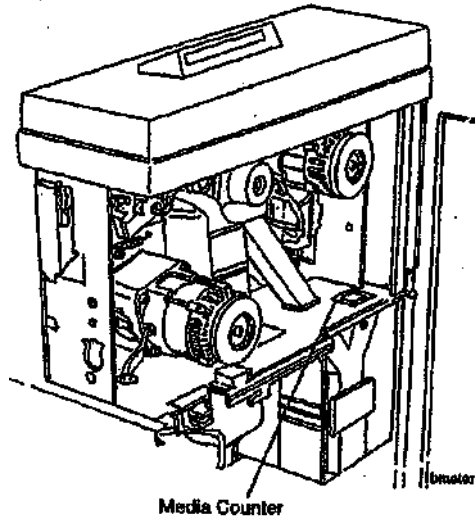

Figure 21. Media Counter Location
10. (Figures 21 and 22): Record the Media Counter readings onto the Service Call Report. Record and report any accessory Serial Numbers (i.e., Finisher, Controller),